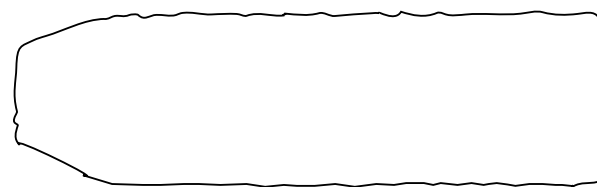
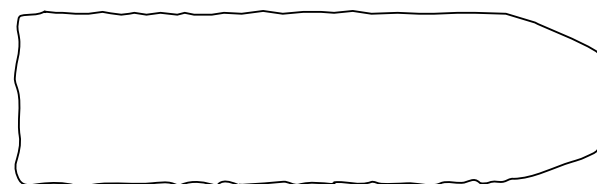
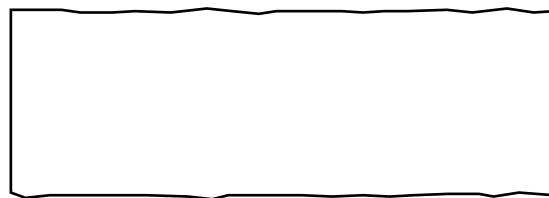

Fig. M7
Fig. M8
Fig. M9
3. If the envelope is as shown in Fig. M7, adjust the height of Guide Roller [2] (Refer to Fig. M3) so that the waveform looks like the one shown in Fig. M9.
4. If the envelope is as shown in Fig. M8, adjust the height of Guide Roller [3] (Refer to Fig. M3) so that the waveform looks like the one shown in Fig. M9.
5. When Guide Rollers [2] and [3] (Refer to Fig. M3) are aligned properly, there is no envelope drop either at the beginning or end of track as shown in Fig. M9.